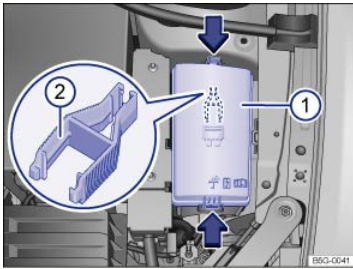

Fig. 207 In the engine compartment: Fuse box cover ① with tweezers ②.
- Press the release tabs in the direction of the arrows ⇒ *Fig. 207* to unlock the fuse box cover ①.
In some vehicles, there are plastic tweezers for removing fuses on the inside of the fuse box cover ⇒ *Fig. 207*②.